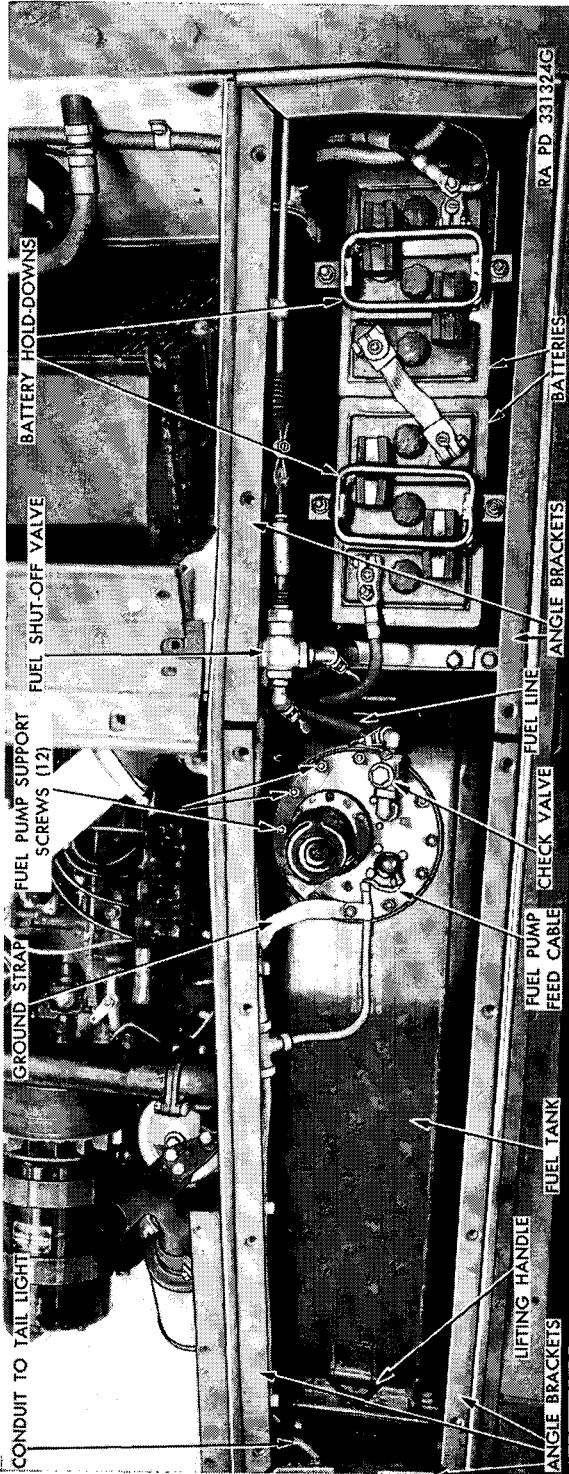
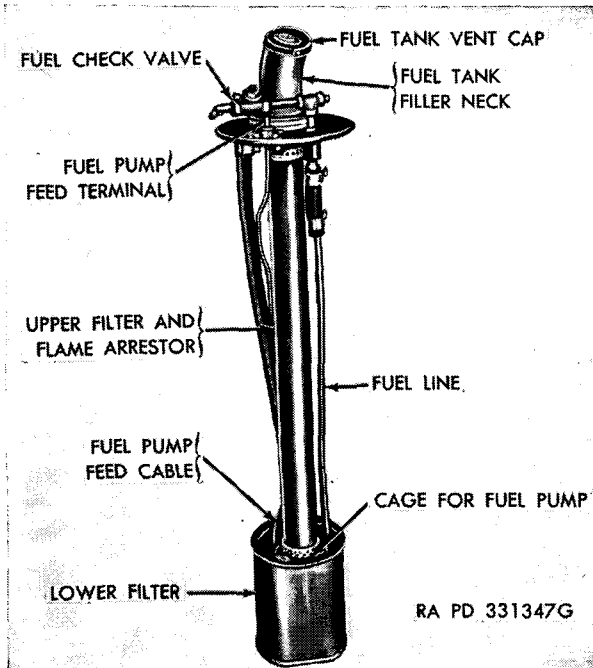

Figure 74. Fuel tank and batteries installed.
Figure 75. Fuel pump support assembly.
- (b) A screen and a filter are incorporated in the fuel pump support assembly in the fuel tanks. The screen extends from the top of the fuel tank filler opening to the top of the fuel pump cage (fig. 75). This strains the fuel as it is poured into the tank and also acts as a flame arrester. The filter surrounds the fuel pump mounting cage at the bottom of the tank. This strains the fuel in the tank as it passes to the pump and is self-cleaning due to sloshing action of the fuel. The fuel pump is mounted within the fuel pump mounting cage.
a. REMOVAL. The fuel pumps are not removed as a separate item, but are removed along with the whole fuel pump support assembly (fig. 75). Fuel pumps normally require no attention in service. To replace an inoperative pump, turn master battery switch to the "OFF" position. Remove battery cover plate and fuel tank cover plate by removing the attaching screws and lift off plates, the fuel pumps are now accessible (fig. 74). Remove screw which holds pump cable to terminal and tape end of cable. Loosen hose clamp at fuel pump outlet elbow and slide hose off elbow. Remove 12 attaching screws and remove complete support assembly (fig. 75).
b. INSTALLATION. Position a new gasket on fuel tank, and slide support assembly into fuel tank and into retainer in bottom of tank. Install 12 attaching screws, mount ground strap under one screw, and tighten all screws securely. Connect fuel outlet hose to elbow and tighten hose clamp (fig. 74). Remove tape from end of cable and install it on terminal. Place rubber guard over terminal. Position fuel tank cover over opening and install attaching screws.